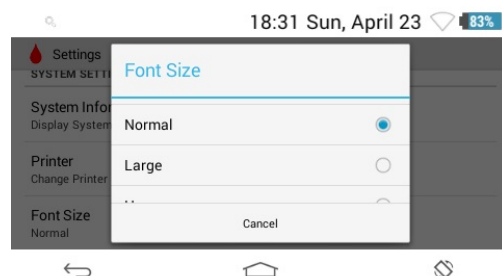

Figure 22 – Adjusting font size
- 2 Select the preferred size (**Small**, **Normal**, **Large**, **Huge**). See Figure 22.